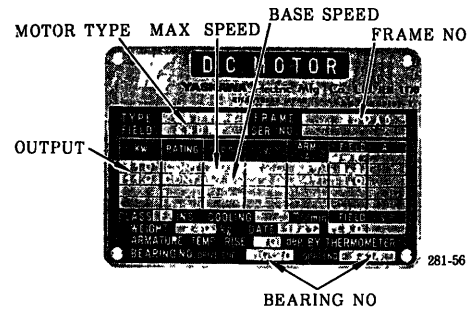

Fig. 12 DC Motor Nameplate
2. Compare the checked speed with the desired maximum speed which is marked on the DC motor nameplate, Fig. 12.